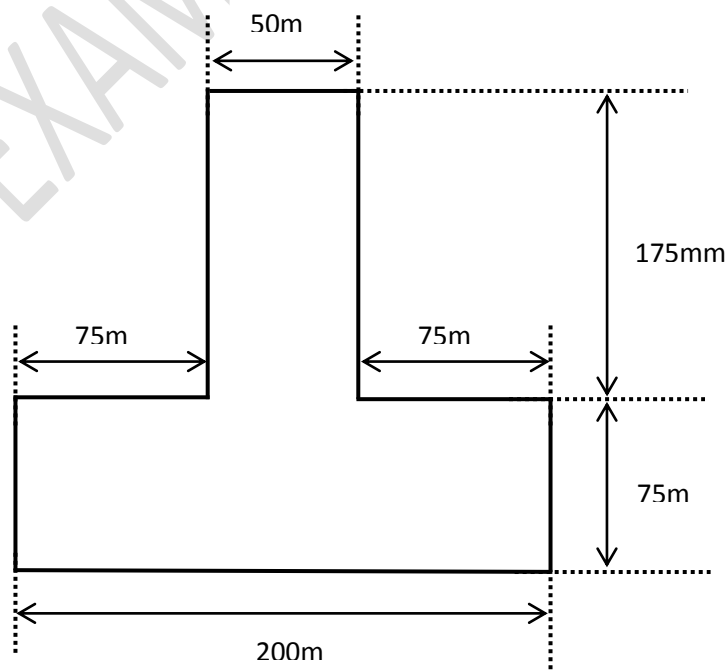

Figure Q5b
- b) A 2 m column with the cross section shown in Figure Q5b is constructed from two pieces of timber. The timbers are nailed together so that they act as a unit. Determine,